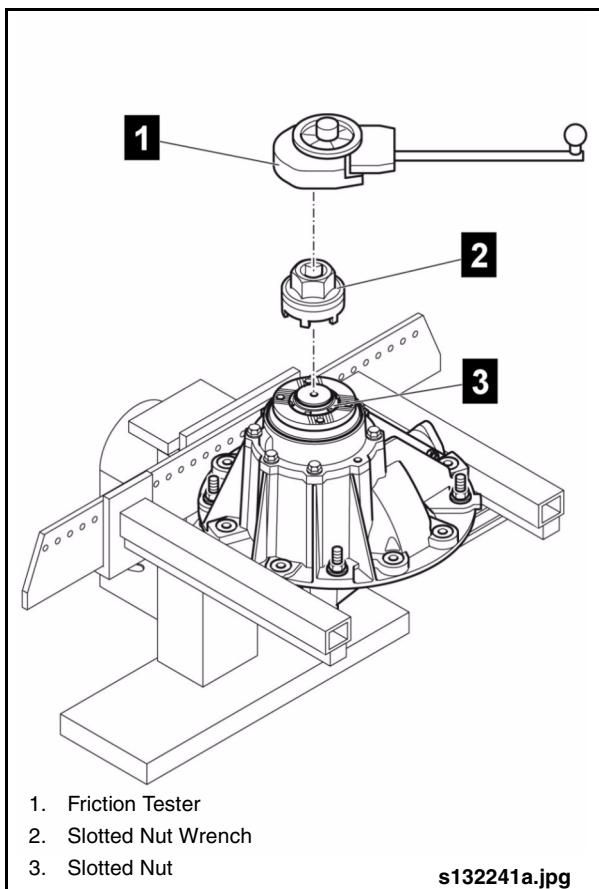

Fig. 2-84: Mounting Friction Tester
8. Place the Friction Tester (Item 77 from Special Tools List) with the Slotted Nut Wrench (Item 26 from Special Tools List) on the slotted nut. See "Fig. 2-84: Mounting Friction Tester" on page 68.